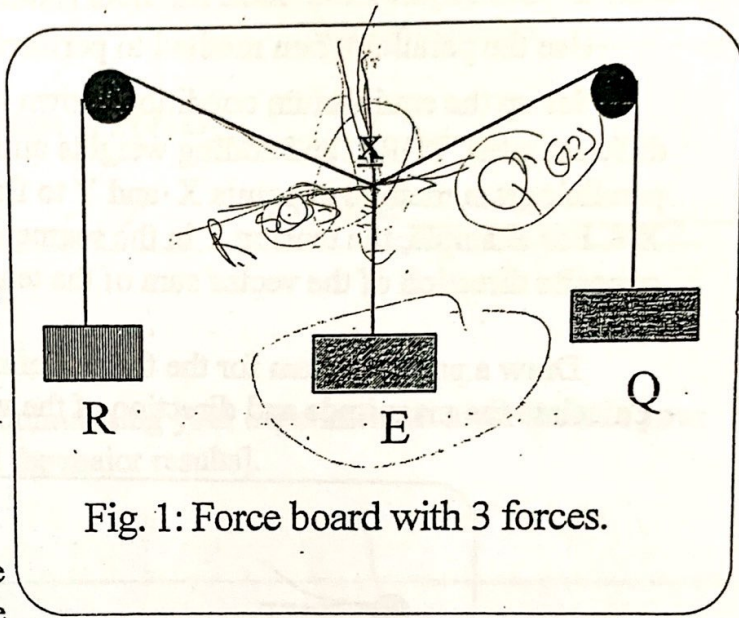

Fig. 1: Force board with 3 forces.
Figure 1 shows the experimental set-up for this experiment.
1. Place appropriate weights on pans R and Q ( see fig.1). ( Include the weight of the pan).